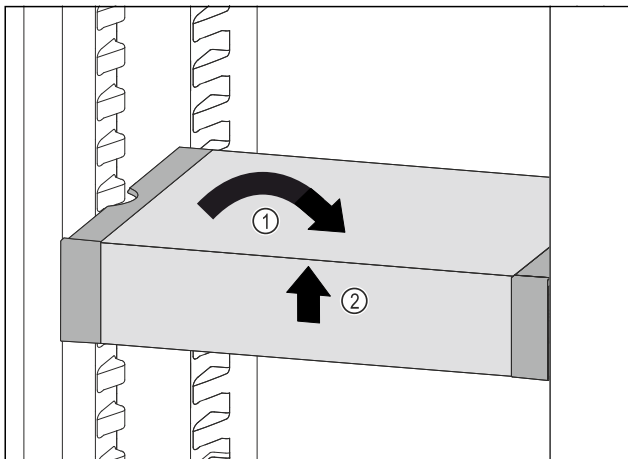

Fig. 83
- Set VarioSafe straight. Fig. 83 (1)
- Lift VarioSafe at the front. Fig. 83 (2)